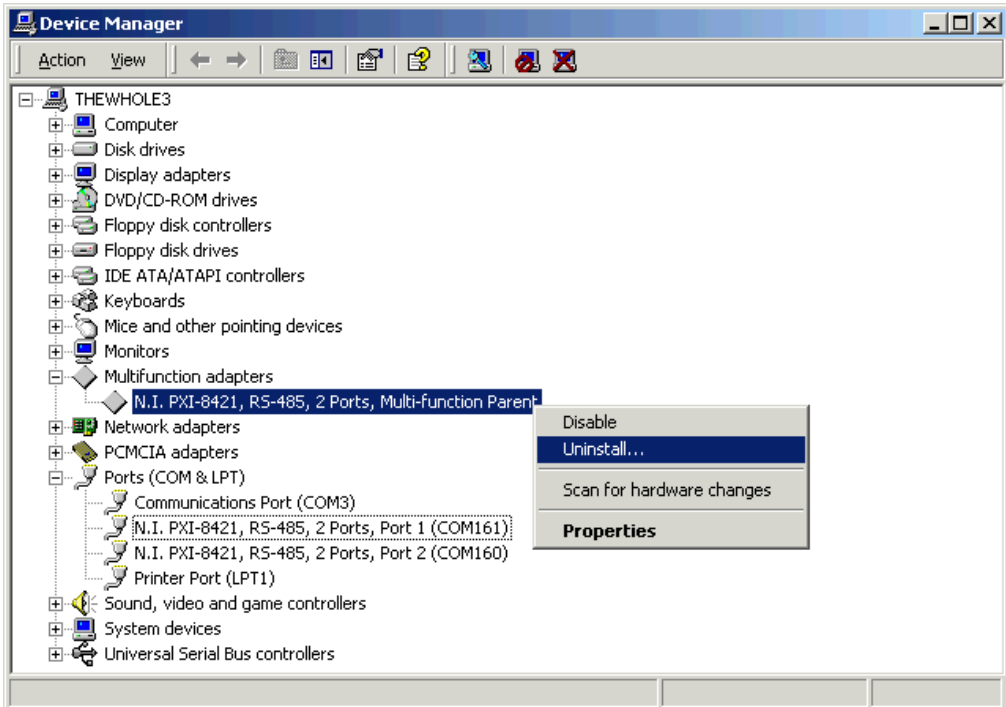

Figure B-1. Selecting an Interface to Uninstall
4. From the **Multi-function adapters** list, right-click on the National Instruments interface that you want to uninstall, as shown in Figure B-1.